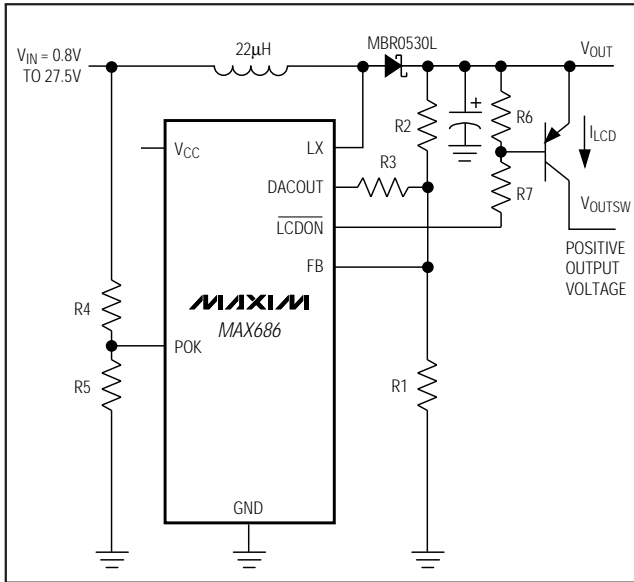

Figure 6. Using the POK for Input Voltage Monitoring
POK is the input to the power-OK comparator. The comparator drives an internal N-channel MOSFET. The MOSFET's open-drain output, $\overline{\text{LCDON}}$, can drive an external PNP transistor or P-channel MOSFET, switching a positive V_{OUT} to the LCD (Figures 6 and 7). When the voltage at POK exceeds 1.125V (power OK), $\overline{\text{LCDON}}$ goes low, turning on the external PNP transistor. When the voltage at POK drops below 1.125V (power not OK), the external PNP transistor turns off, cutting off power to the LCD display. This feature ensures that the LCD display is not damaged due to improper voltage levels. During shutdown or undervoltage lockout, $\overline{\text{LCDON}}$ is high impedance.
When the voltage at POK is greater than 1.125V (typical), the open-drain LCDON output pulls low. LCDON can withstand up to 27.5V to control an external PNP transistor to switch on the MAX686's positive output (Figures 6 and 7). A PFET can also be used, but a resistor-divider must be used in conjunction with it, so that the PFET does not exceed its V_{GS} rating. Three useful applications of this feature are as follows:
- An input-sensing cutoff for positive outputs. Connect POK to a voltage divider to sense the input voltage. The output switches on only when the input reaches the set level (Figure 6).
For input voltage sensing, a resistor-divider (R4-R5, Figure 6) from V_{IN} to POK controls the open-drain output LCDON, which pulls low when $V_{POK} > 1.125V$. Choose $R5 = 100k\Omega$. For example, if the minimum battery voltage is 5.3V, then determine R4 as follows: